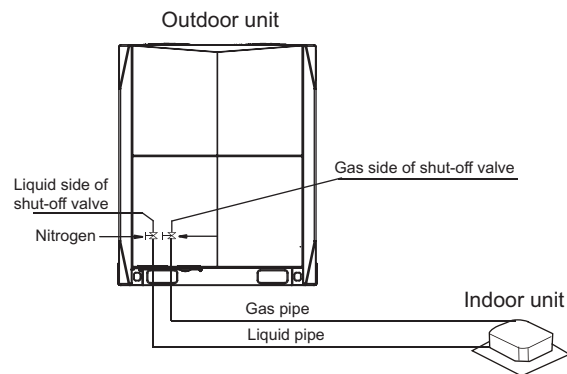

Fig.5-5
- It is not allow to bring pressure on the float valve directly. (See Fig. 5-5)